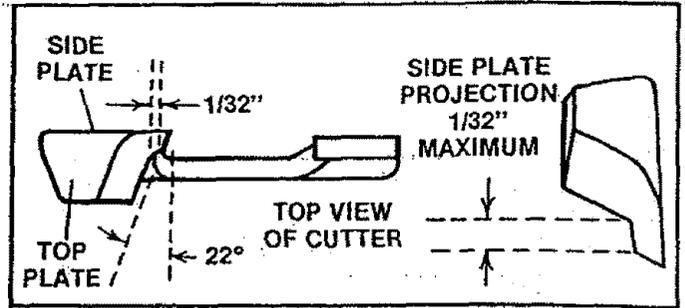

Figure 27
6. Maintain a 1/32" side plate projection. Figure 27.